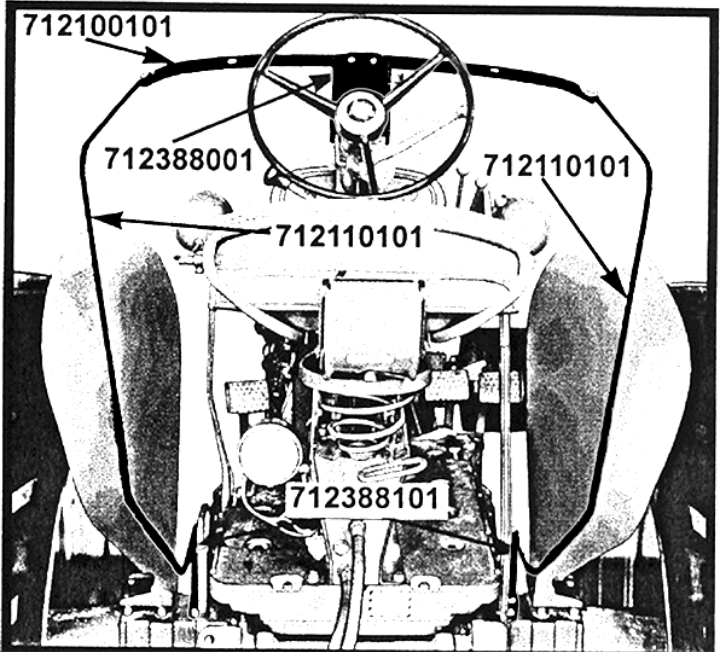

Figure 2
2. Attach the # 712388101 Side Arm Brackets to existing holes in the left and right side of the axle housing using 1/2x1" hex bolts. See figure 2 & 3